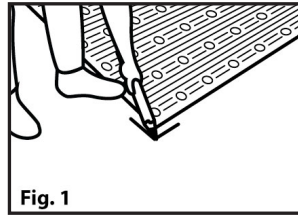

Fig. 1
3. Lay out the panel on the concrete substrate and mark around the panel corners with a pencil to identify the designated installation location. (Figure 1) (not recommended or warranted for asphalt installations)